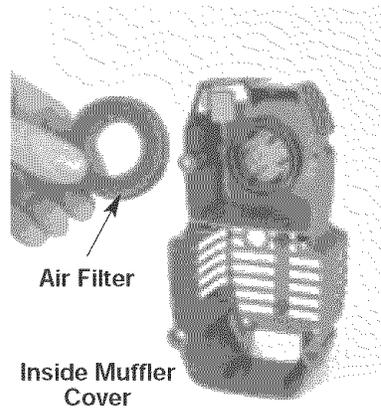

Fig. 13
2. Turn cover over and look inside to locate the air filter. Remove the air filter from inside the air filter/muffler cover (Fig. 13).
6. Replace the air filter inside the air filter/muffler cover (Fig. 13).